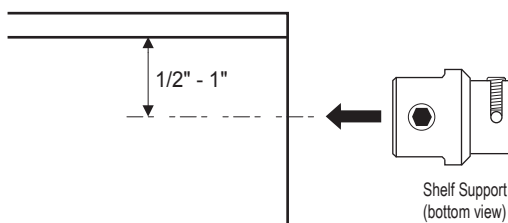

fig 1
1) Attach a clamp support to each corner of the acrylic shelves at 1/2"-1" distance from edge (fig 1).